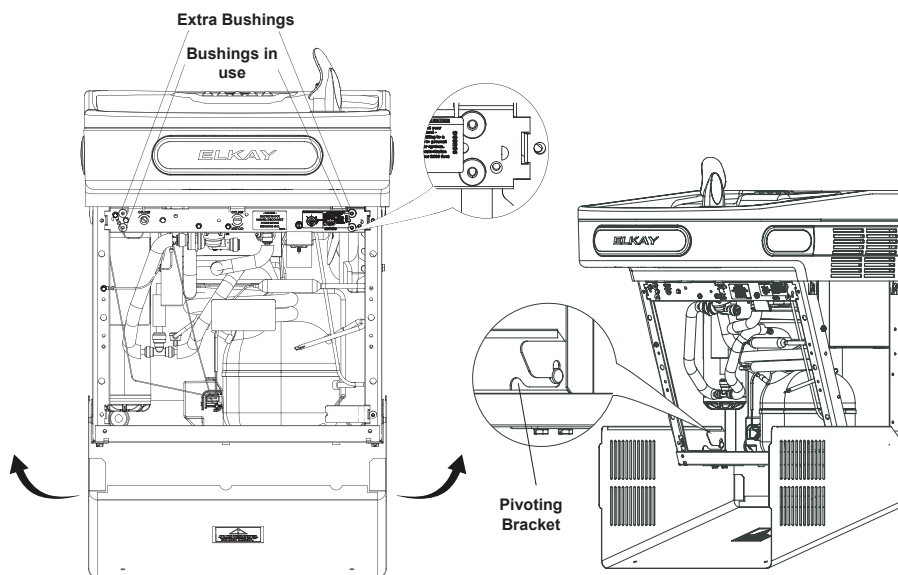

Fig. 4
3. To remove the wrapper, hold each side and gently pull wrapper up and out of pivoting bracket (see Fig. 4).
2. Removing the wrapper from the pivoting bracket when servicing the unit is recommended. The wrapper may be left in place for quick serviceability (see Fig. 4).
5. Four plastic bushings are located in the cross brace of the frame. The lower two bushings align with wrapper holes and the top two bushings are extras in case of replacement (see Fig. 4).